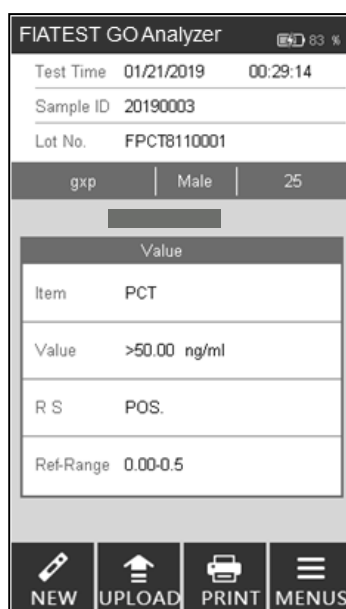

Fig 34
Step 8: The results will display after testing. (Ref Fig 34)
Step 8: The results will be displayed when test is completed. (Ref Fig 34)